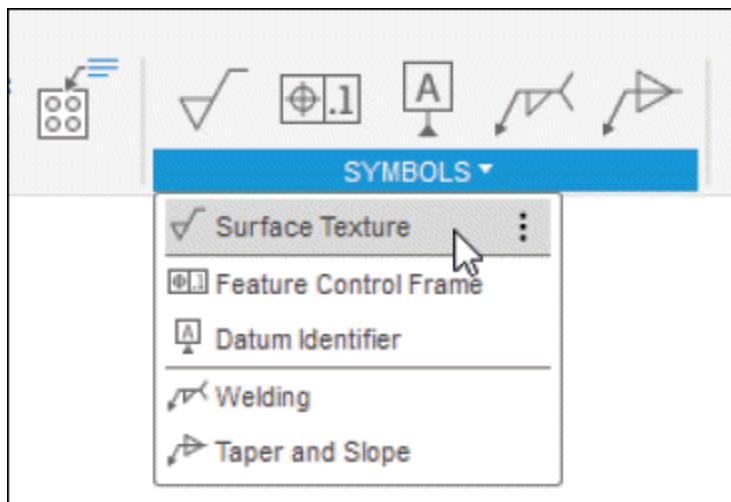

Figure-90. Surface Texture tool
- Click on the **Surface Texture** tool from **SYMBOLS** panel of **Toolbar**; refer to Figure-90. The tool will be activated.